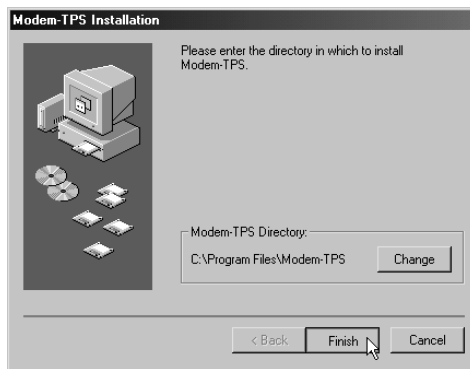

Figure 2-24. Modem-TPS Installation Wizard – Default Directory
2. On the Modem-TPS Installation dialog box, select the directory in which to install the program, or keep the default directory, and click **Finish** (Figure 2-24).